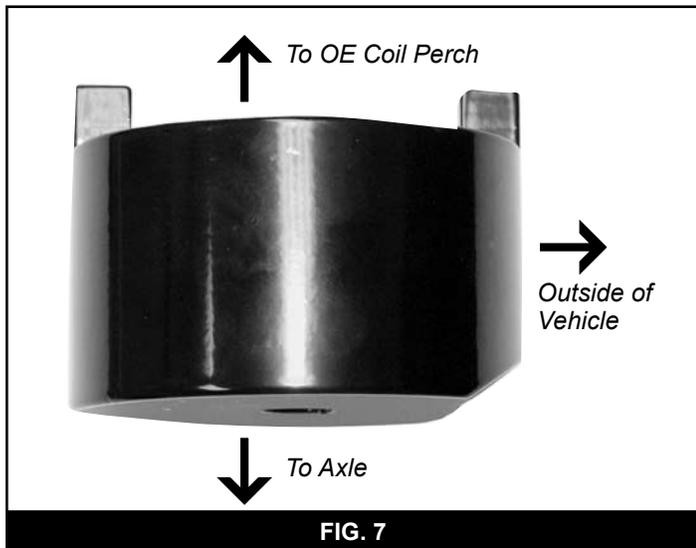

FIG. 7
14. Apply thread locker to the supplied 14mm bolt. Install the OE coil perch in conjunction with the new spacer (Fig 7) on the axle. The chamfer in the block goes toward the outside and the upper tabs nest in the recesses in the coil perch. Fasten the assembly with the 14mm x 100mm bolt (14mm x 80mm for #013101) and 9/16" SAE flat washer. Torque hardware to 95 ft-lbs. Note: The coil perch is labeled "FRT" for the front side.